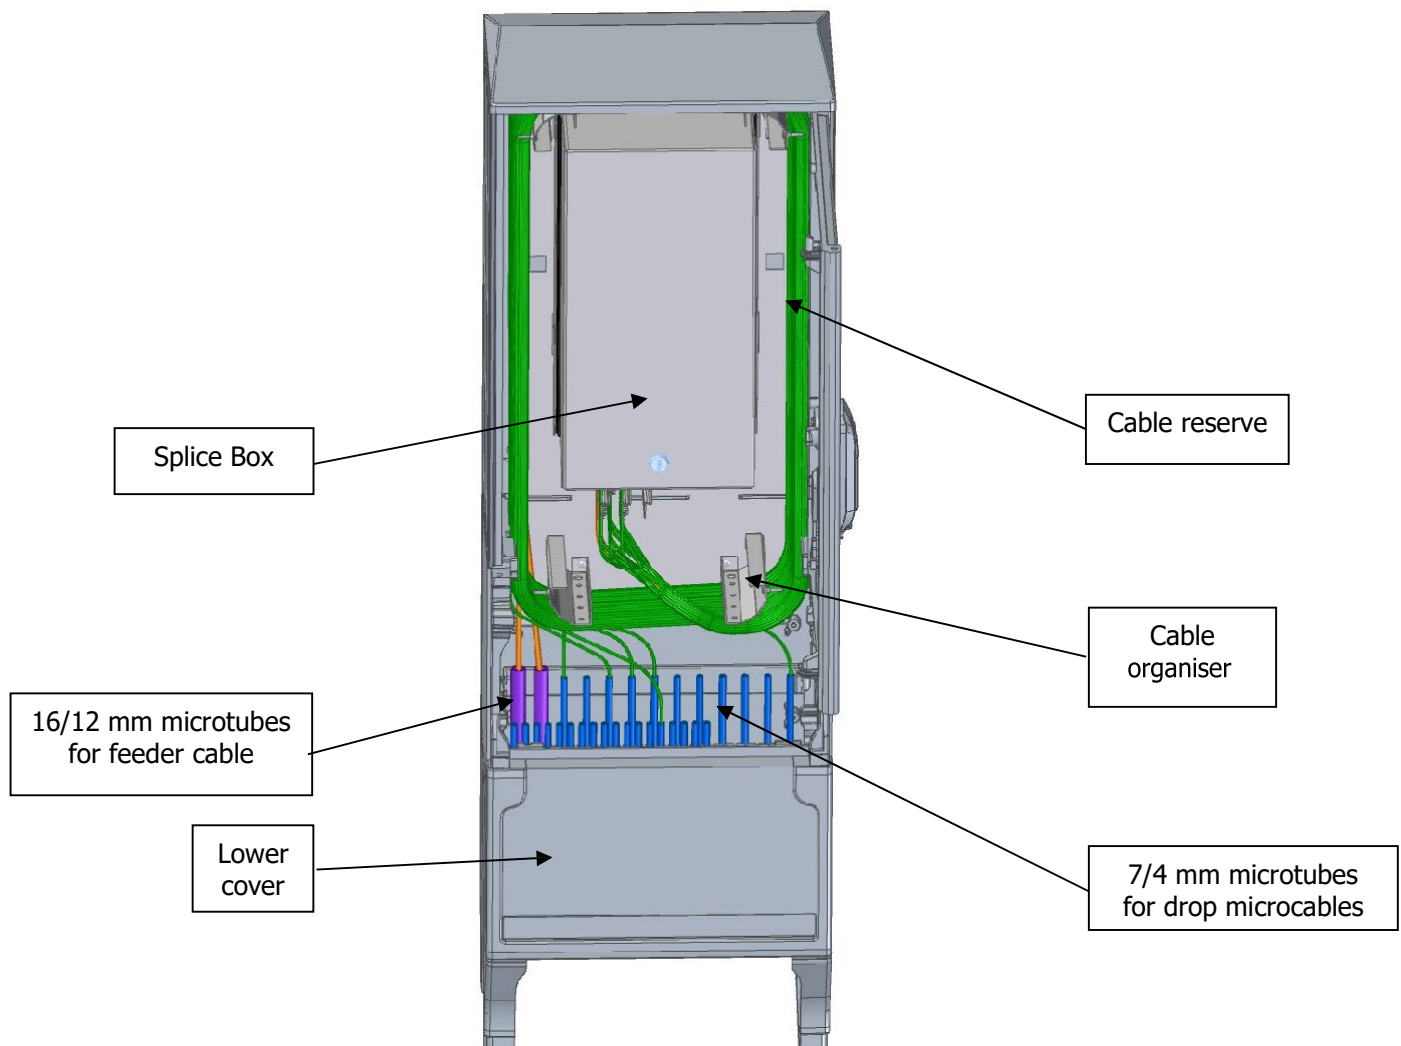

Fig.5. View of cabled HF-MSS-3/12 Optical Fibre Distribution Cabinet with front upper cover removed
6. When installation of all microducts is completed put on the lower cover back as shown in Fig.5.
16. Install the cabled splice box in the optical fibre distribution cabinet. Using the cable organisers arrange the microcables inside the cabinet in 4 loops using the cable organisers, see Fig.5.